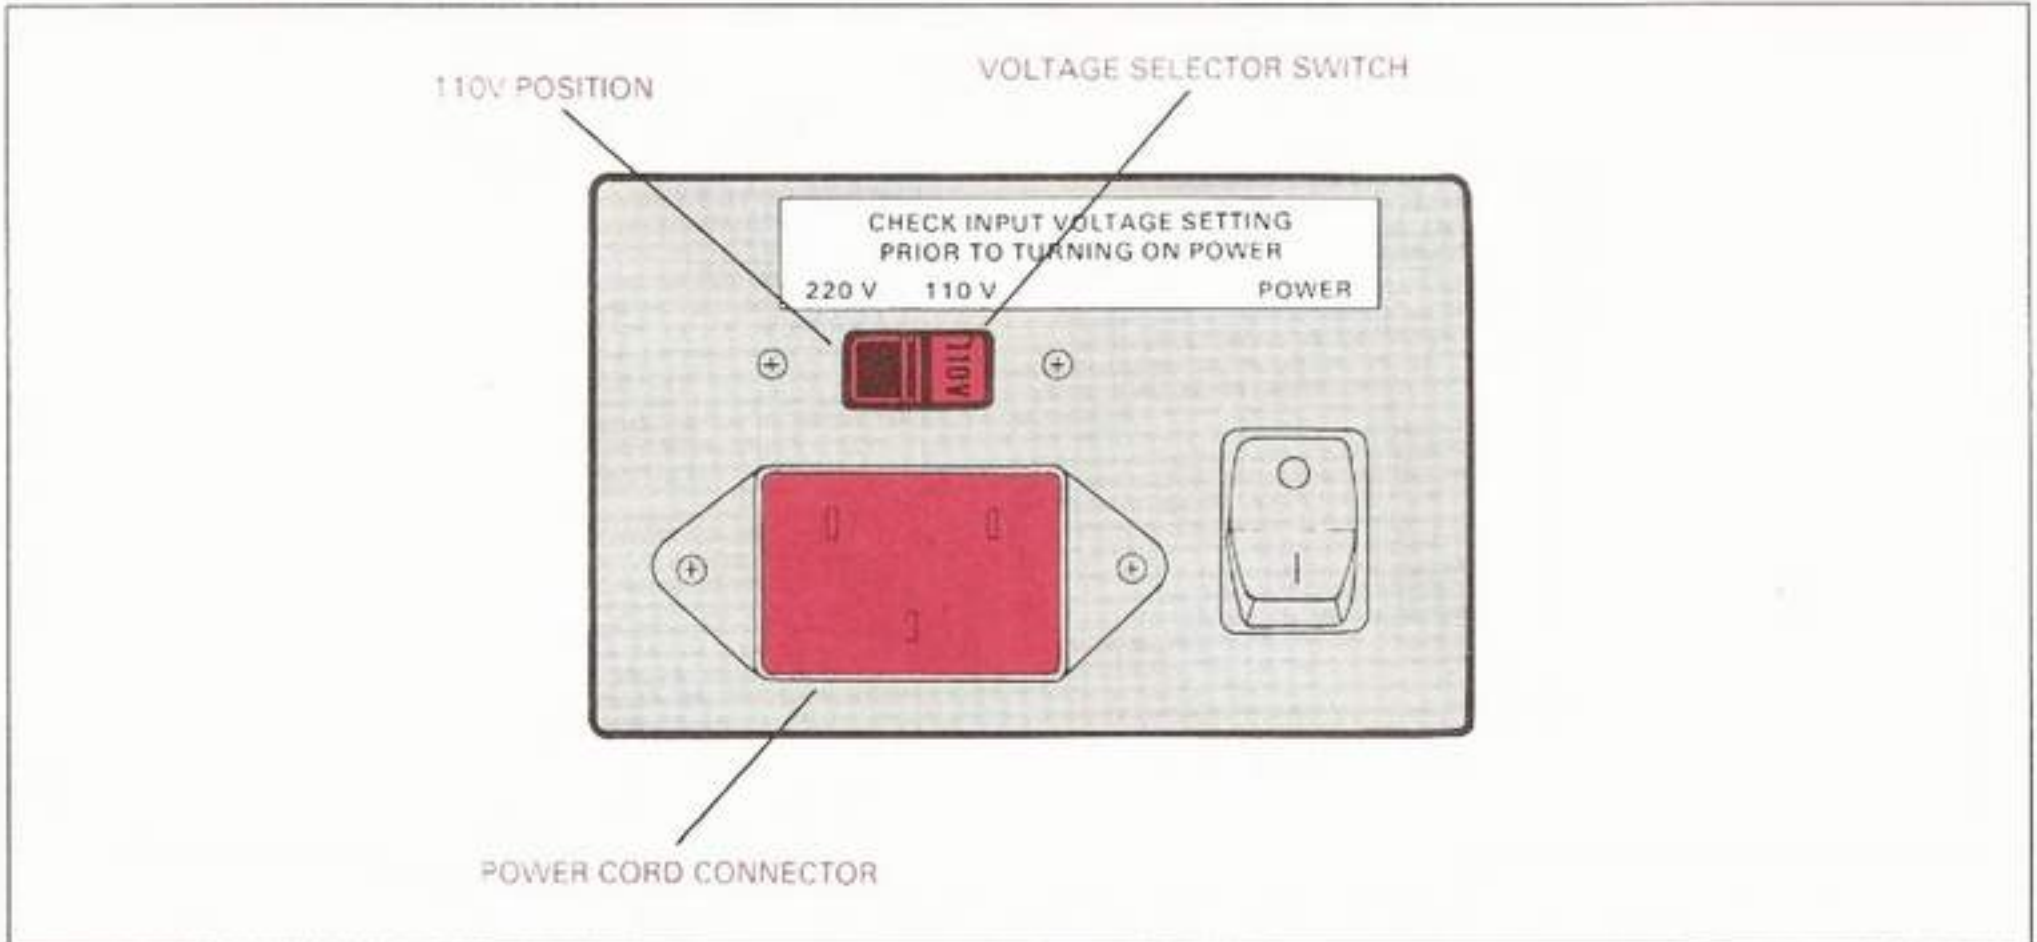

Fig. 7: Voltage Selector Switch and Power Cord Connector
- ___ g. The power-supply input voltage is factory set at 110-V ac. If you are using the Pro-Arm on a 220-V ac power source, change the Voltage Selector Switch on the power supply to the "220 V" setting. (Refer to Fig. 7.)